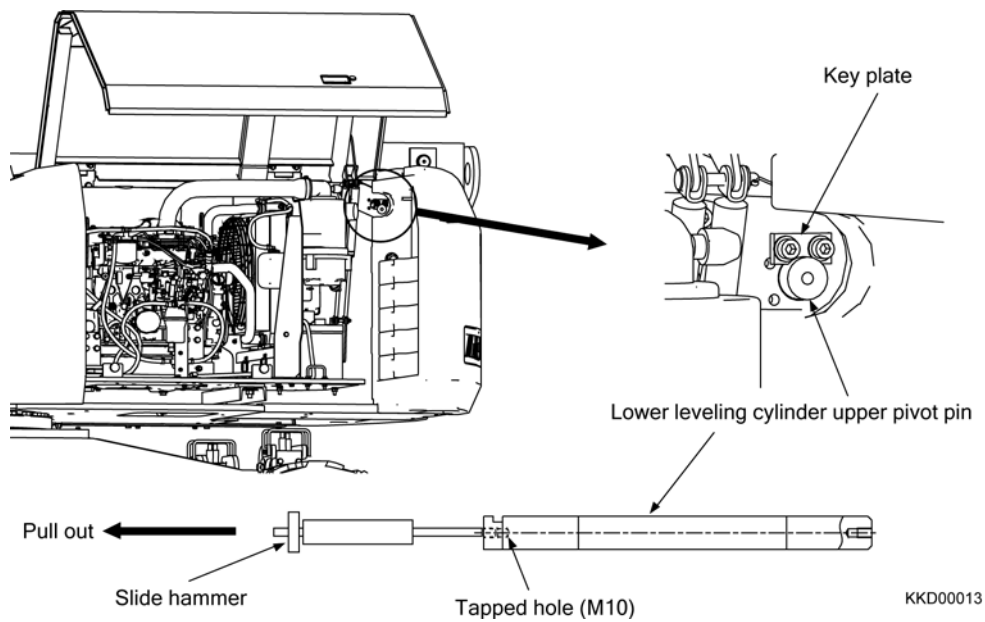

Fig. 2-42
- 17) Open the engine cover, take the key plate and then pull the lower leveling cylinder upper pivot pin out using slide hammer (Fig. 2-42).